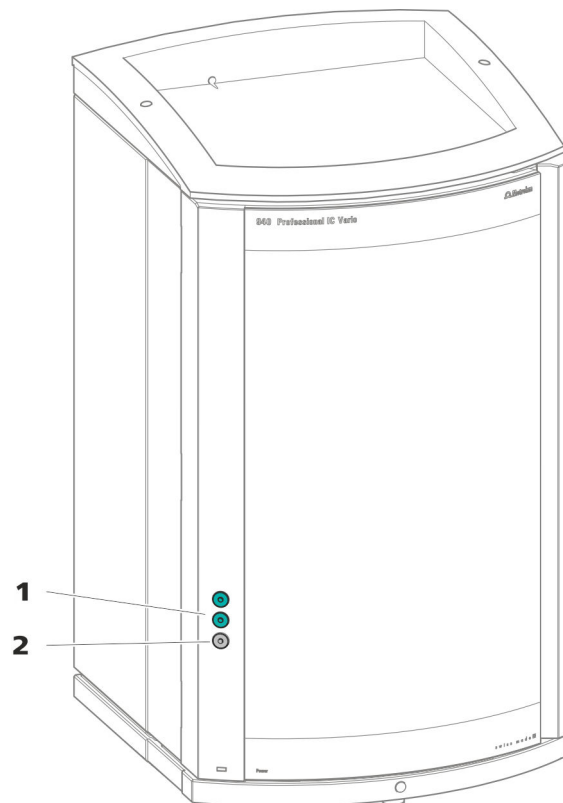

Figure 3 Feed-throughs on the door
- Openings on the door (see Figure 3, page 10)